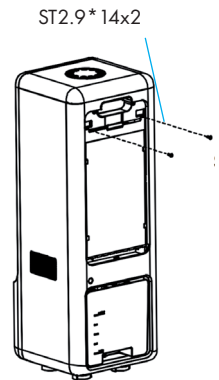

Fig. 3
- Unscrew the 2 pcs screw ST2.9*14 (Fig 3).